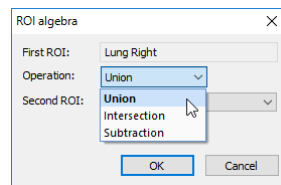

Figure 241 – ROI algebra dialog, defining the algebraic operation
2. The **ROI algebra** dialog is then displayed where select the algebraic operation in the **Operation** combo box (see Figure 241).